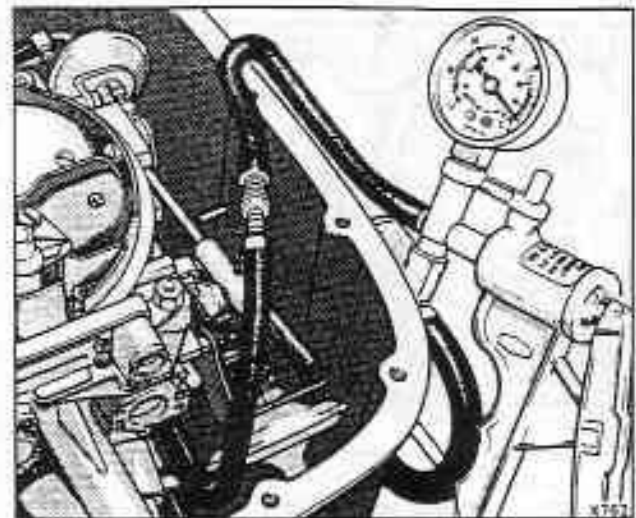

Fig. K11-26 Vacuum gauge connected into the gated orifice signal hose
6. If the engine idle speed is outside the range 630 rev/min to 670 rev/min remove the gated orifice hose (see fig. K11-26) and connect up a vacuum gauge to the hose.